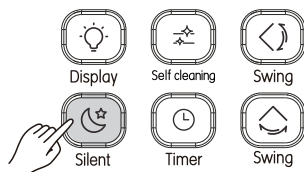

Figure 3.14
1) When the unit is in the Cool or Heat mode, press  (see Figure 3.14) to start the Silent function. Screen displays the  icon;